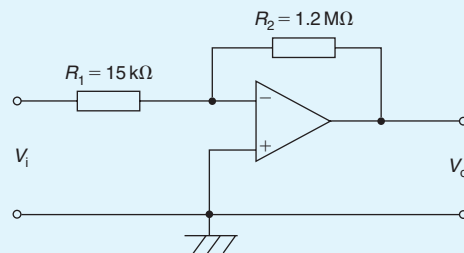

Figure 19.7
5. The op amp shown in Fig. 19.7 has an input bias current of 90 nA at 20°C. Calculate (a) the voltage gain and (b) the output offset voltage due to the input bias current.